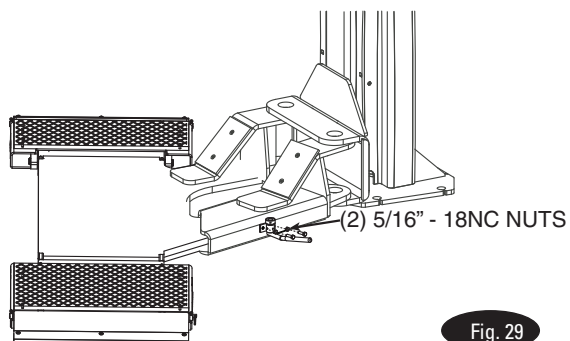

Fig. 29
34. Tire Hanger: Secure using (2) 5/16-18NC nuts, Fig. 29.
- B) Press short bumper on top edge of carriage tube, Fig. 29.